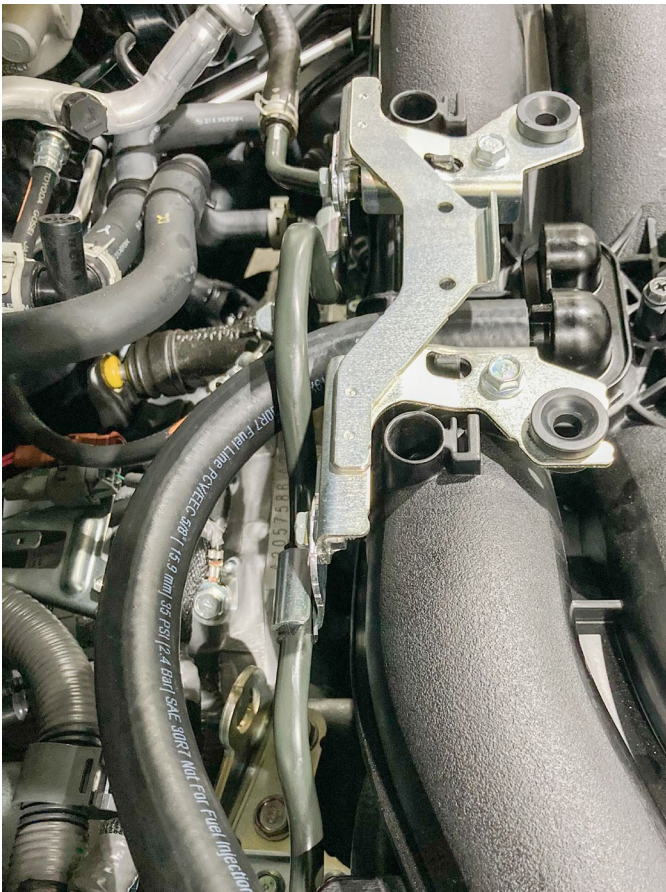

Figure 9
8. Install the longer 5/8" supplied hose to the top of the manifold. (Fig 9)